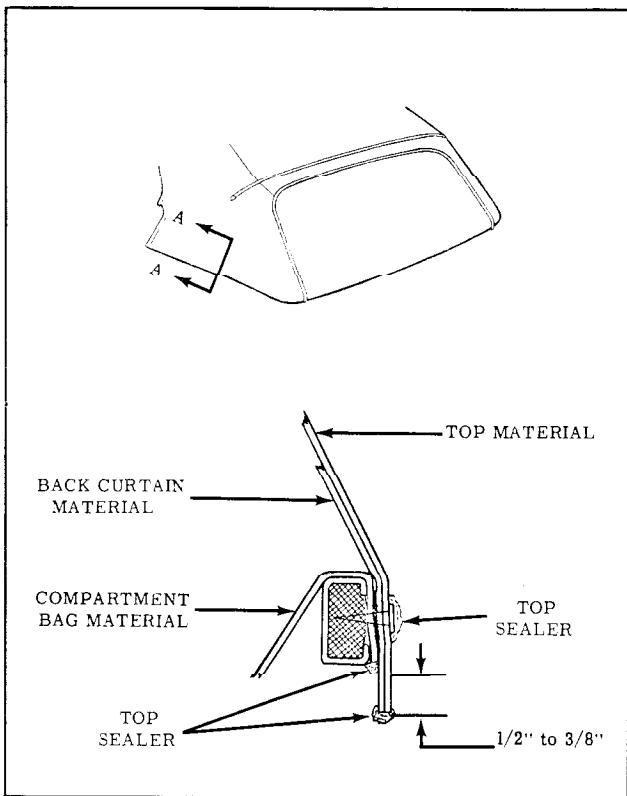

Fig. 15-104 Sealing at Trim Sticks
- 42. Remove trim sticks with attached top material from top compartment well. Back curtain should extend 1/2" below trim sticks. (See Step 9 of installation procedure.) In addition, top material must extend 1/2" to 5/8" below trim sticks, to minimize water wicking on inner lining of back curtain material. (View "A-A" in Fig. 15-104) Trim top material as required.
- 43. Apply convertible top sealer (nitrile) onto all trimmed edges, around each tack head and around each trim stick attaching bolt hole. (View "A-A" in Fig. 15-104)
26. Apply convertible top sealer (nitrile) onto all trimmed edges, around each tack head and around each trim stick attaching bolt hole. (View "A-A" in Fig. 15-104)